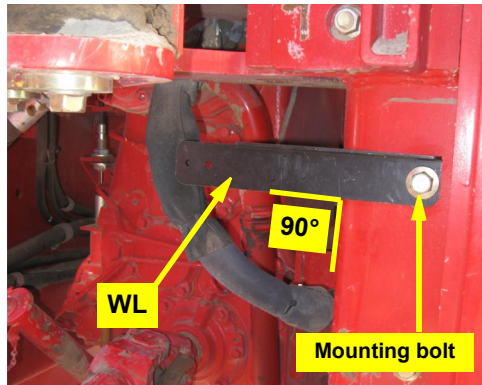

Figure 2c: Installed WAS assembly bracket
- c. Remove the top mounting bolt on the right side of the tractor frame near the articulation point. Using the mounting bolt, install the WAS assembly mounting bracket **WL** on the tractor frame. Ensure the bracket is level at 90° to the frame (Figure 2c).